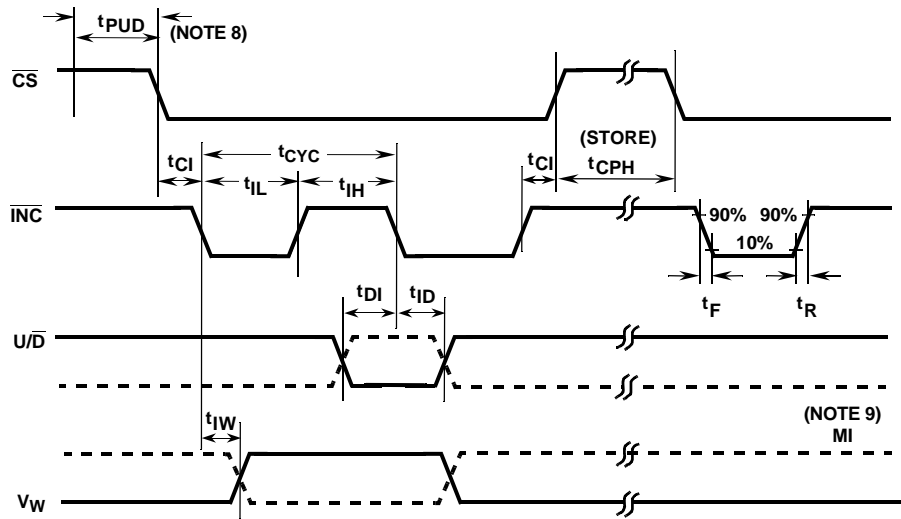

FIGURE 3. ISL45003, ISL45004 TIMING DIAGRAM
- 9. MI in the AC Timing diagram (Figure 3) refers to the minimum incremental change in the wiper output due to a change in the wiper position.